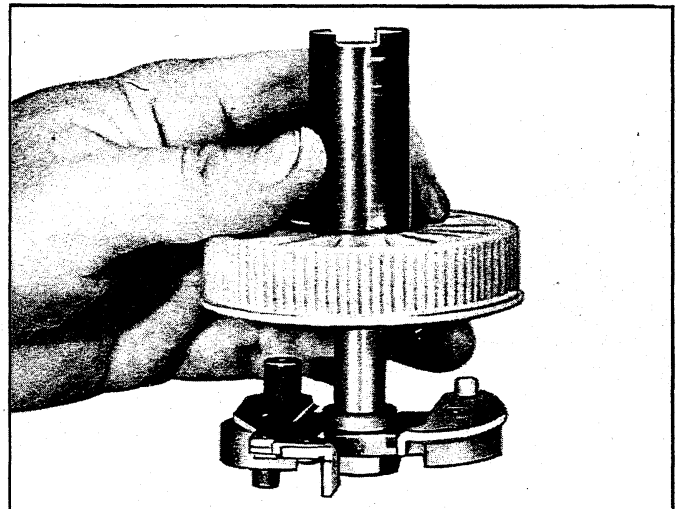

Fig. 100 - Assembly Gear and Eccentric Shaft
2. Install the assembled parts from Step 1 in the gear and eccentric shaft as shown in Figure 100.
3. Connect the coil tension spring between the lock and drive pawls (fig. 100).